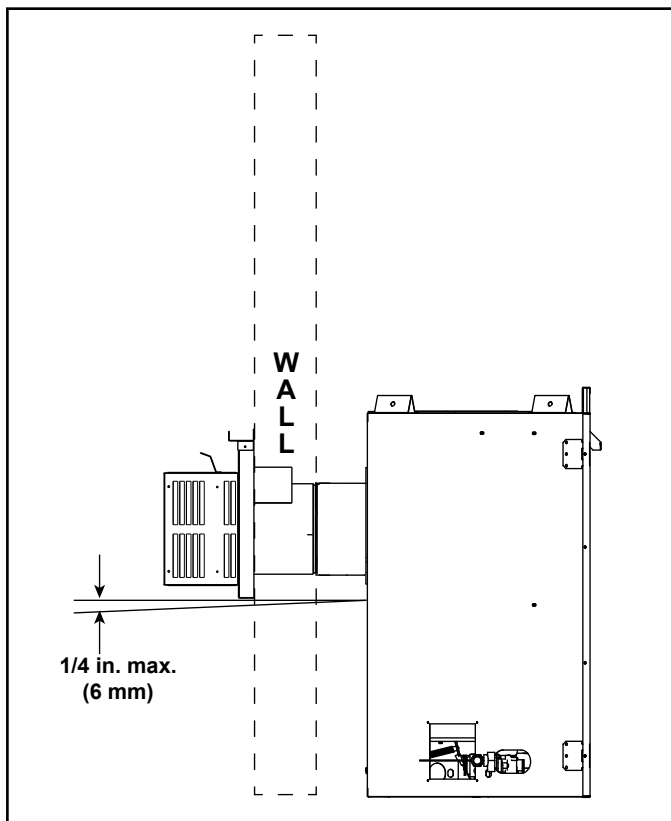
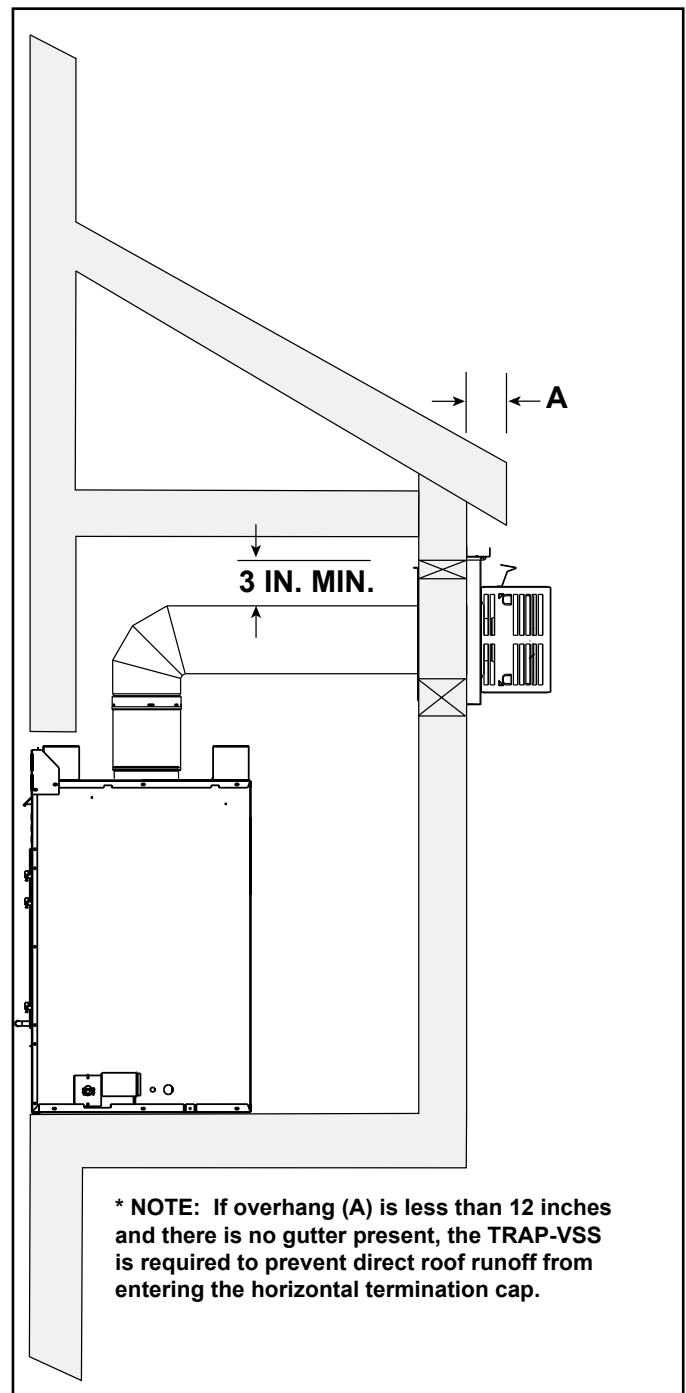

Figure 4.9 Water Infiltration Prevention
Figure 4.10 Exterior Chase - Water Infiltration Prevention
- When the horizontal termination cap is exposed to high precipitation, the cap should have a 1/4 inch downward slant to allow any moisture in cap to be released. See Figure 4.9. See Figure 4.10 for additional water infiltration prevention information.